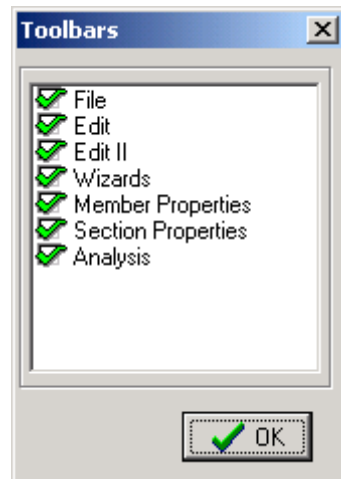

Figure 56 "TOOLBARS" DIALOGUE BOX
1. Right click on View > Toolbars command. The dialogue box shown on figure 56 will appear.